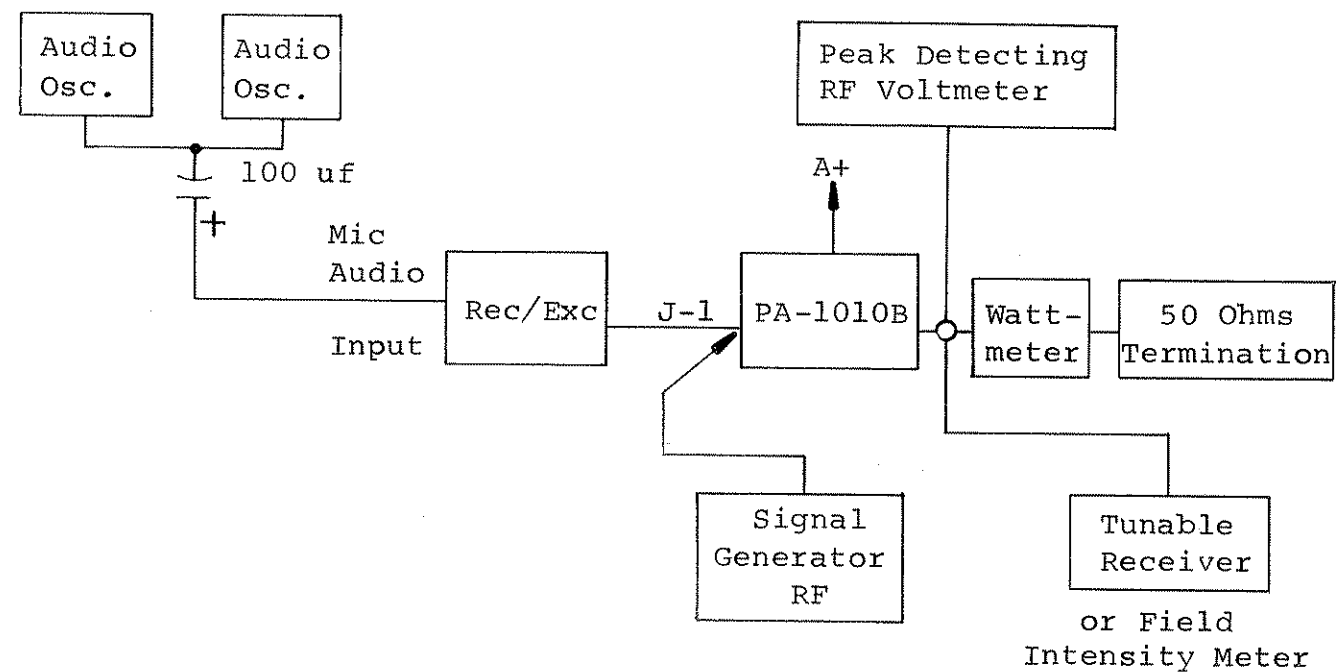

Figure VI-3
- (a) Connect equipment as shown in Figure VI-3.
- (a) Refer to Figure VI-3 for test set-up.
- a. Refer to Figure VI-3 for test set-up.
- g. Adjust R-1403 (CW) until RF voltmeter indicates 79 volts.